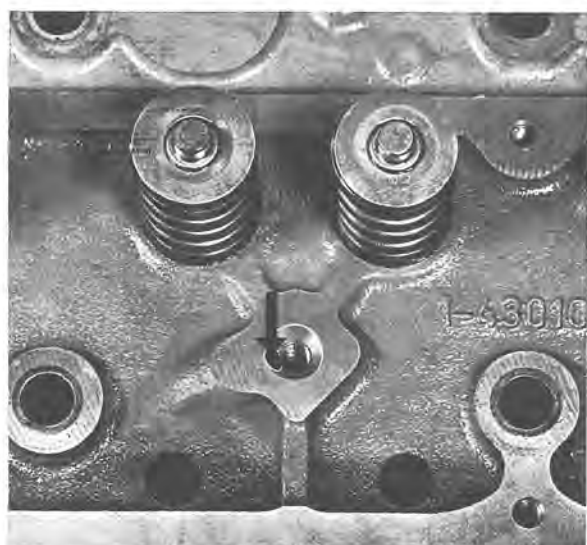

Fig. 2-23. Oil hole in cylinder head
The bolts should be tightened in two stages and final-tightened after running the engine warm. Check that the oil hole (Fig. 2-23) for lubricating the rocker arms is not blocked.
3. Check that the oil channel (Fig. 2-23) in the cylinder head for the rocker arm mechanism is not blocked.